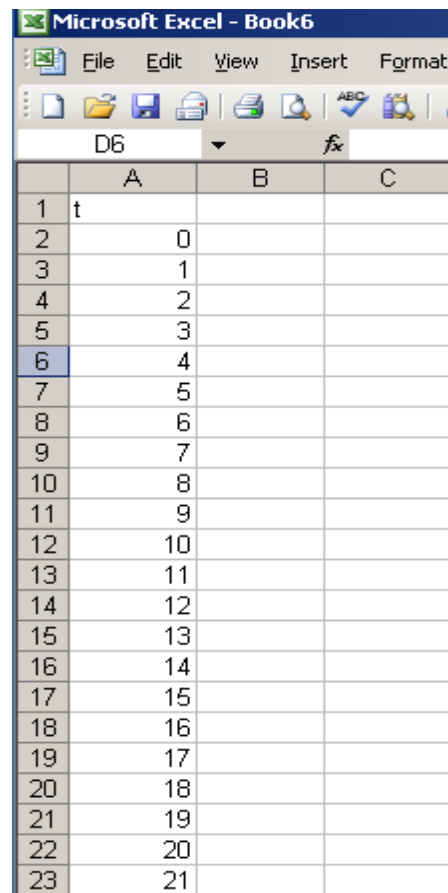

Figure 30: Time series in seconds since simulation start
2. Fill in column A in one workbook with a whole-number series starting at zero and incrementing by one (see Figure 30)
- Figure 30 is in seconds since simulation start, which means that for each second of “simulation time” (which is one iteration) a value is read from the input file.